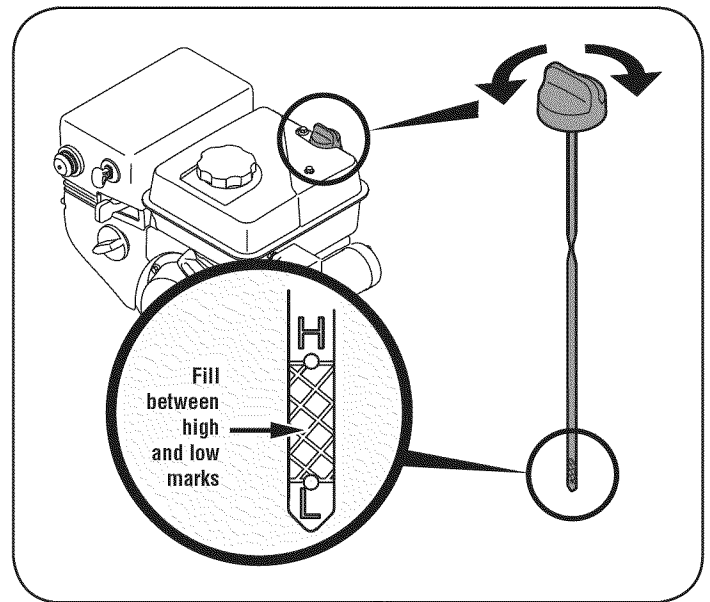

Figure 17
3. Remove the oil filler cap/dipstick. If the level is low, slowly add oil until oil level registers between high (H) and low (L), Figure 17.